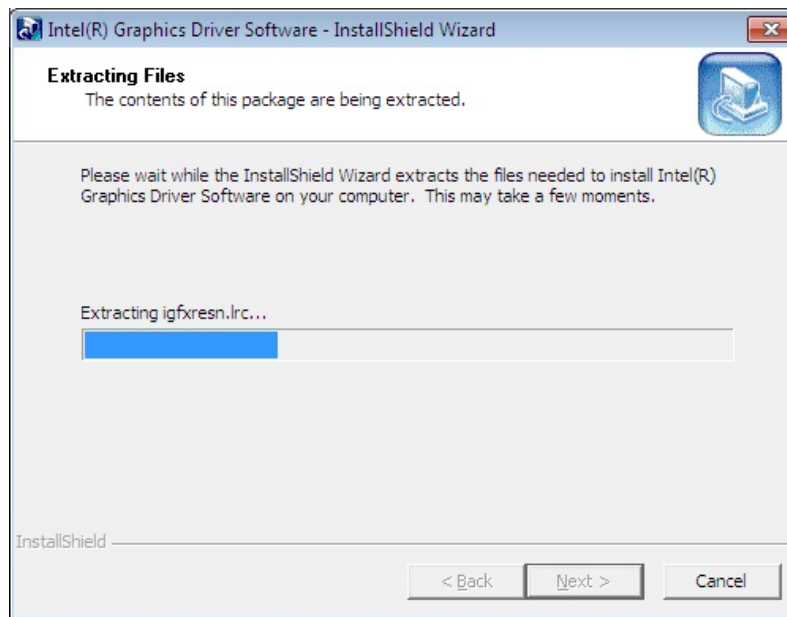

Figure 6-8: VGA Driver Screen
Step 5: The setup files are extracted as shown in Figure 6-8.